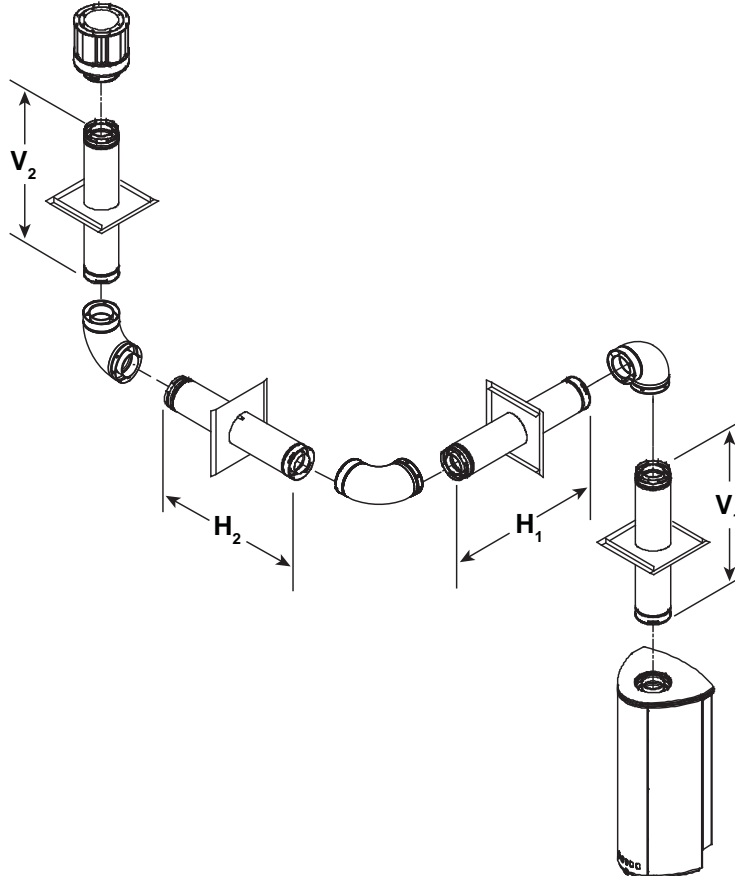

Figure 7.10
- (1) If an offset is necessary in the attic to avoid obstructions, it is important to support the flue pipe every 91.4cm to avoid excessive stress on the elbows, and possible separation. Wall straps are available for this purpose, **Figure 7.10**, page 15.
- (2) Whenever possible, use 45° elbows, instead of 90° elbows. The 45° elbow offers less restriction to the flow of flue gases and intake air.